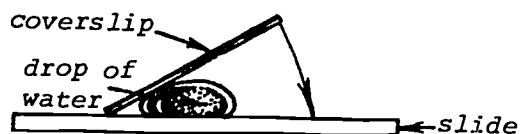

FIGURE 7: Side view of slide.
4. Pick up the coverslip and touch one edge to the drop of water as shown in Figure 7. Slowly lower the coverslip to the slide. If this procedure is done correctly, you should get few or no air bubbles under the coverslip. If necessary, you can remove air bubbles by tapping the coverslip gently with the eraser end of a pencil. The slide will be studied in Part C.